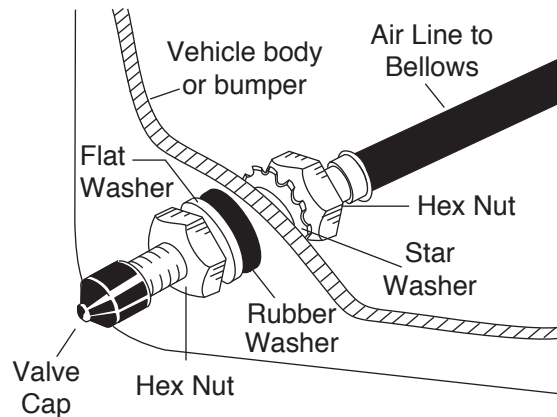

fig. 8
14. Cut the air line assembly into the equal parts. Drill 5/16" hole for inflation valves and mount as illustrated. Rubber washer on the outside is for weather seal. (Fig. 8)